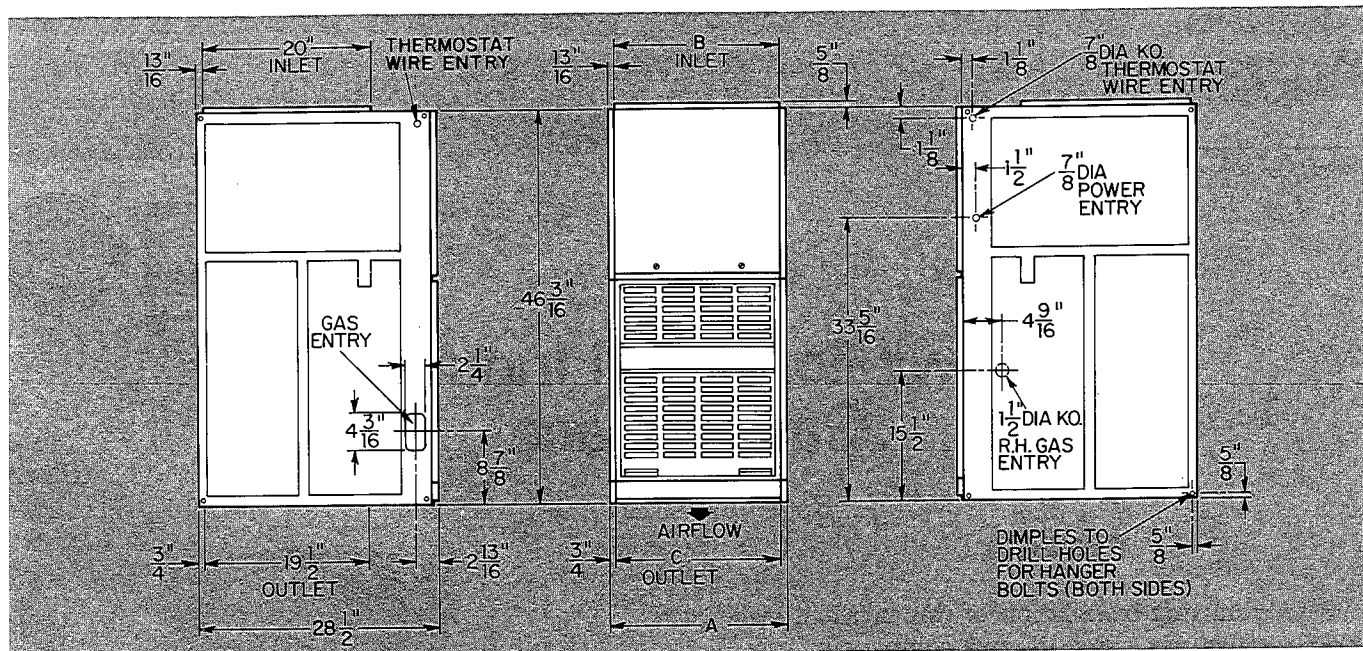

Fig. 3 — Dimensional Drawing (in.)
1. See Fig. 3 for dimensions and location of supply-air opening in furnace bottom.